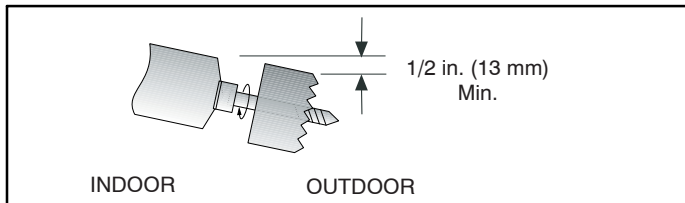

Figure 5 – Drill Holes
1. Determine pipe hole position using the mounting plate as a template. Drill pipe hole diameter per chart below. The outside pipe hole is 1/2 in. (13mm) min. Lower than inside pipe hole, so it slants slightly downward. See figure 5.